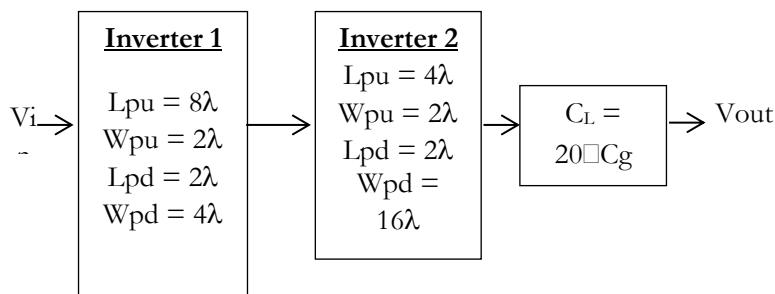

Fig 4.1
c) Two nMOS inverters are cascaded as shown in Fig4.1 below. Calculate the delay in terms of τ . If $C_1 = 8\Box C_g$ at the output of first inverter, determine: